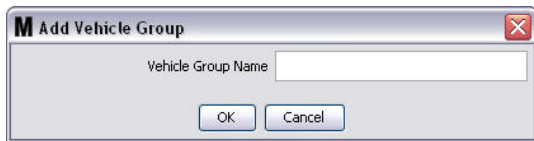

FIG. 169
3. The Add Vehicle Group text box shown in FIG. 169 displays. This box is used to assign a Group Name to identify the vehicles you are putting together in a group. Click the OK button to close the box and save the name.